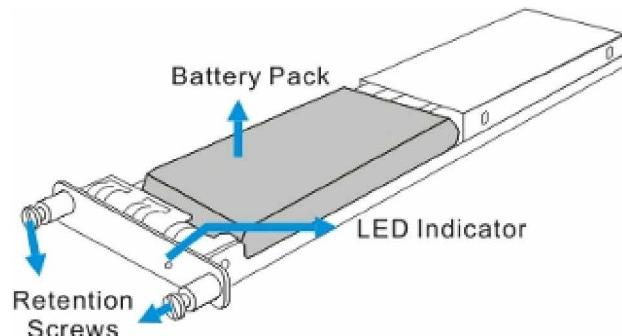

Figure 1-11: BBU
Two (2) standard Li-ION battery backup units (BBUs) (see *Figure 1-11*) are pre-installed in the FALCON III and can sustain cache memory after a power failure. Each BBU is installed on the upper left side of the controller module in the rear subsystem chassis.